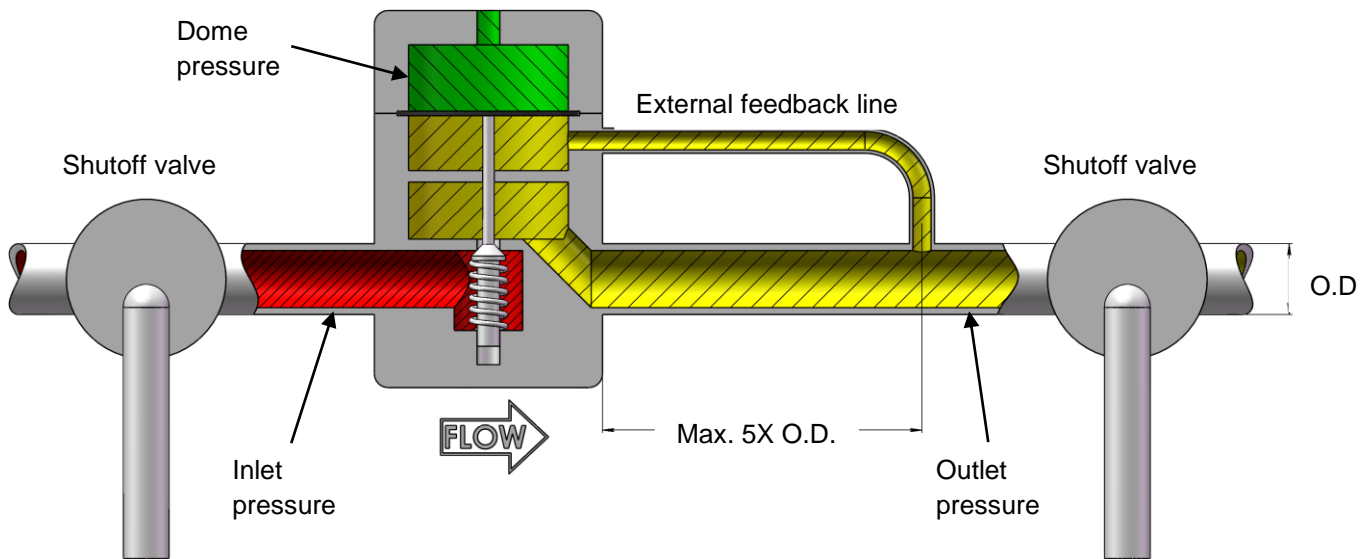

Fig 6
- The external feedback line is to be connected in a turbulence-free zone in the downstream piping, at a maximum distance of 5x the outside diameter of the downstream tubing/piping (Fig 6).